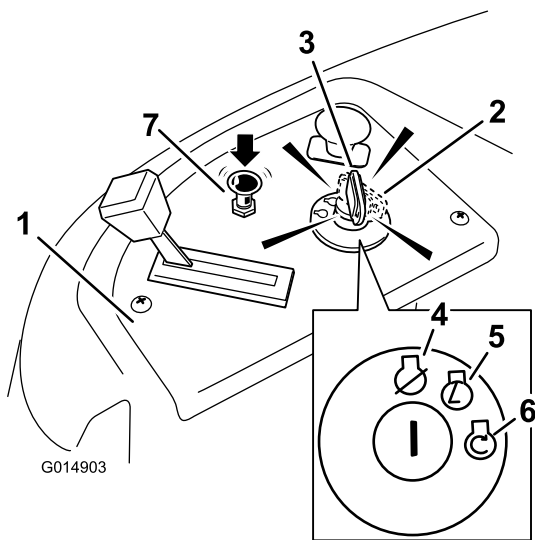

Figure 14
4. Turn the ignition key to Start to energize the starter. When the engine starts, release the key (Figure 14).
- After the engine starts, push down on the Choke control (Figure 14). If the engine stalls or hesitates, pull up on the Choke control and let the engine run for a few seconds. Then push down on the Choke control. Repeat this as required.
3. Turn the ignition key to Off (Figure 14) and remove the key.